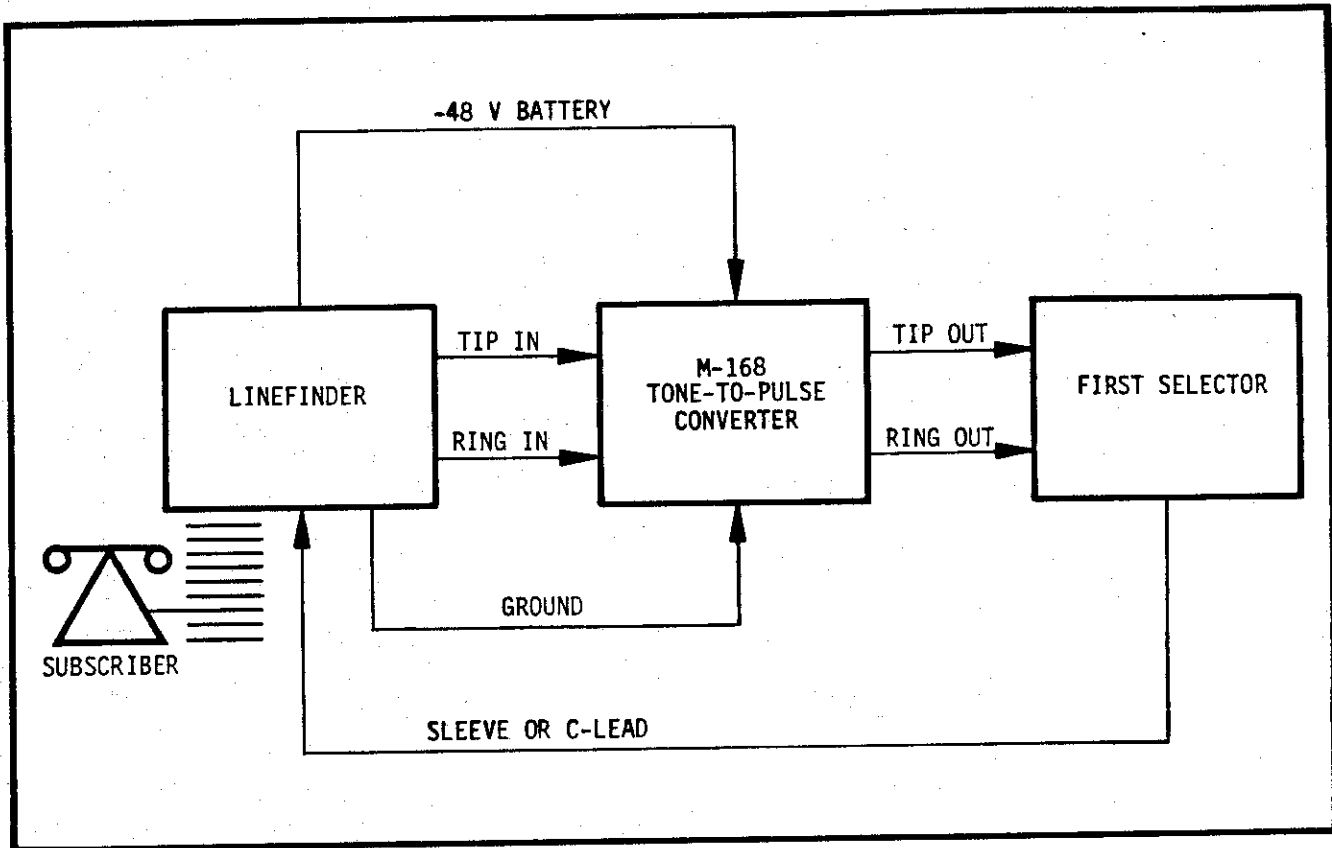

Figure 2 System Connections
**3.01** Each M-168 circuit card includes all the circuitry necessary to convert one linefinder (see Figure 2). The unit operates on the same negative battery voltage supply as other telephone equipment.